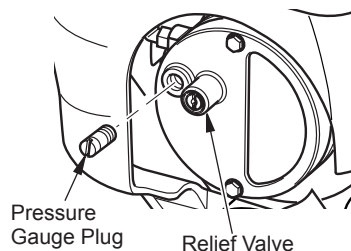

Figure 21 - Pressure Gauge Plug Removal
1. Remove pressure gauge plug from filter end cover (see Figure 21).